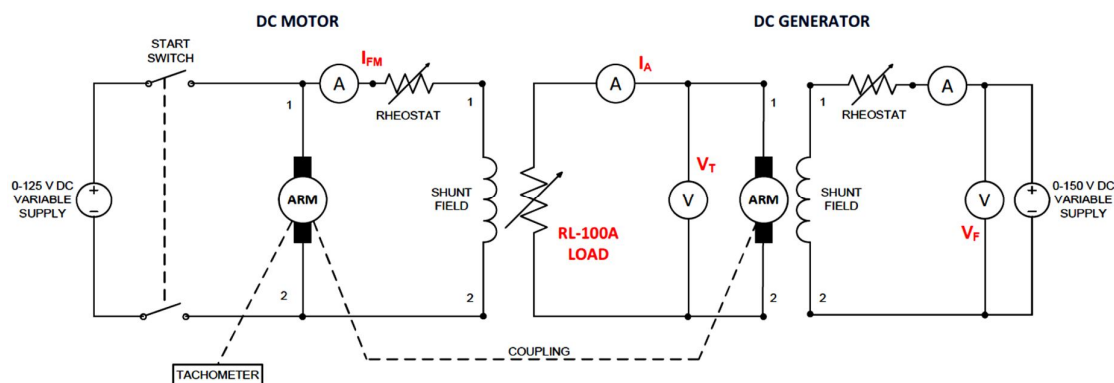

Figure 1.1
1. Make the motor connections shown in Figure 1.1 but do not turn the power ON yet. Turn the knob of the 0-125 variable DC supply fully counter clockwise to its zero position. Turn the motor's field rheostat knob fully counter clockwise to its minimum resistance position.
2. Make the generator connections shown in Figure 1.1. Turn the generator's field rheostat knob fully clockwise to its maximum resistance position. Turn the knob of the 0-150 volt supply fully counter clockwise to its zero position.